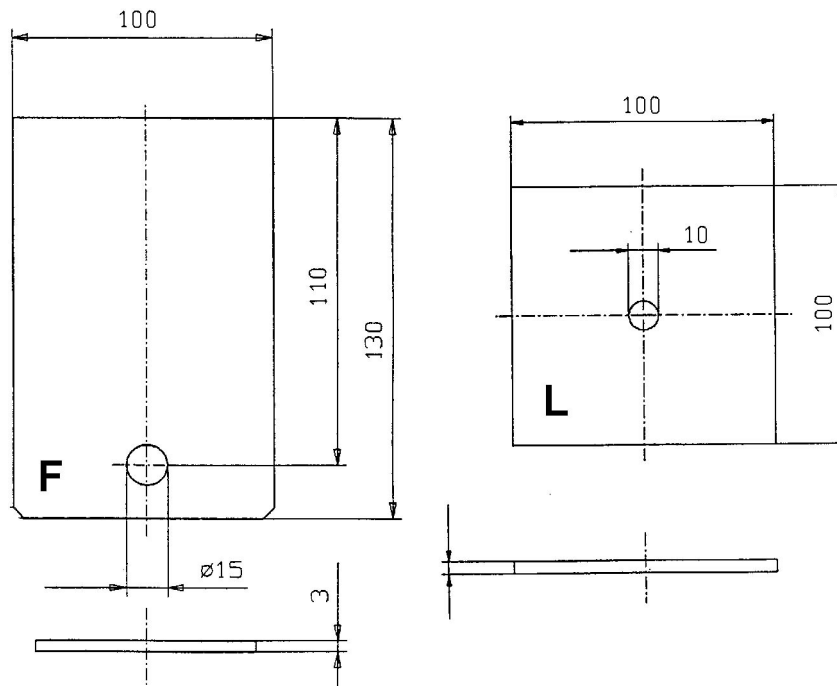

Figure 8: The sheet metal parts F and L
8. Place the 100×100×3 mm sheet metal (L, see figure 8) with the 10 mm boring in the center on the top center of the model.
2. Add the 2 sheet-metal pieces (F, see figure 8)  $150 \times 100 \times 3$  mm to the bar on both ends by pushing the bar through the 14 mm holes.